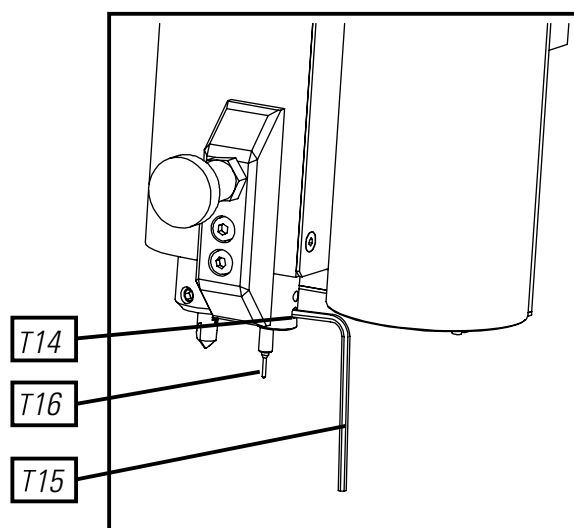

FIG. 25
- 3) Loosen the holder (T14) using a 2 mm Allen key (T15) and remove the 1P feeler (T16). (Fig. 25)